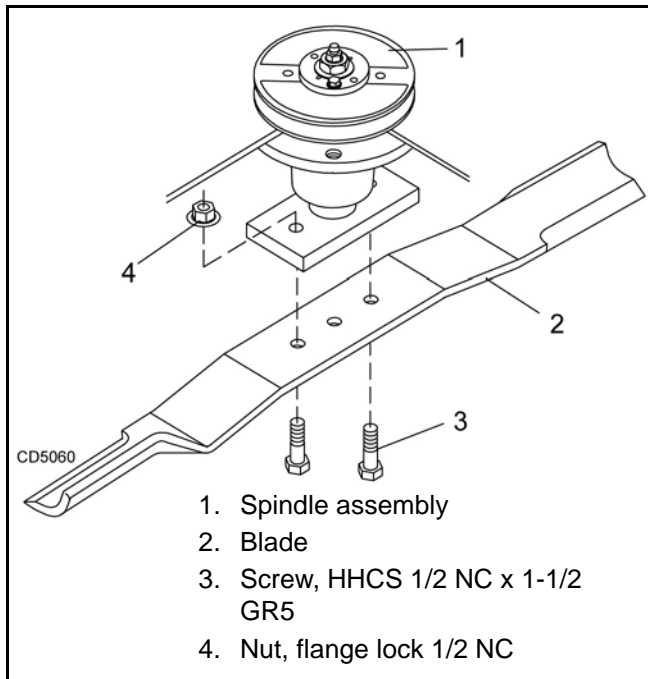

Figure 13. Blade Installation
- When installing blade, the lift of the blade must be toward the blade spindle housing as shown in Figure 13, page 24.
1. Place cap screws (3) through outer holes in blade and spindle shaft.
3. Place locknuts (4) on screws and torque to 84 lbs-ft.